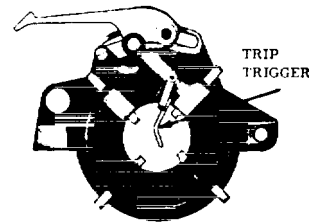

Fig. 4
6. If the machines specially equipped with an Oster "Automatic Opening" Die Head, (see figure 4), the Trip Trigger Assembly will automatically open the Die Head at the correct length of pipe thread in sizes from 1/2" to 2", so the thread length gauge need not be used in this instance.